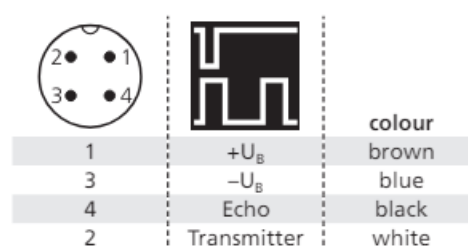

Fig. 1: Pin assignment with view onto the sensor plug and colour code of the connection cable
Proper Use The WMS ultrasonic sensors are designed for non-contact detection of objects. Follow the control and signal evaluation equipment setup as shown in Fig. 1 below.
Connection and Installation Connect the sensor plug according to the pin assignment and color code provided in Fig. 1. Ensure proper alignment and secure connections.
- Connect the sensor to your own control and signal evaluation equipment according to Fig. 1.